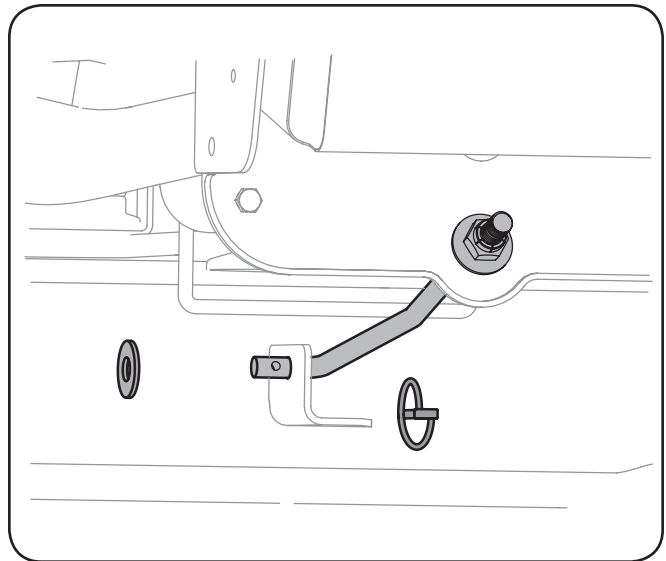

Figure 7-5
11. Remove the cotter pin and flat washer from the end of the stabilizer rod and slide the stabilizer out of the hanger bracket on the deck. See Figure 7-5.
- a. With the deck beneath the mower frame, attach the stabilizer rod. See Figure 7-5.